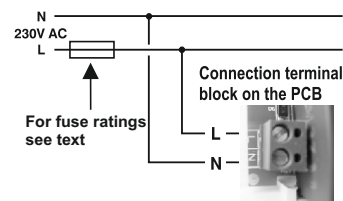

Figure 4
5. Connect the mains cables to the terminal block as shown on figure 4.